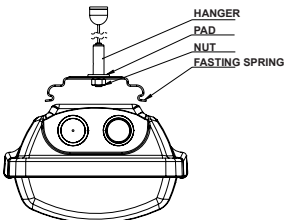

Fig. 4
- d) using wall fasteners – not included in the fittings (Fig. 4)